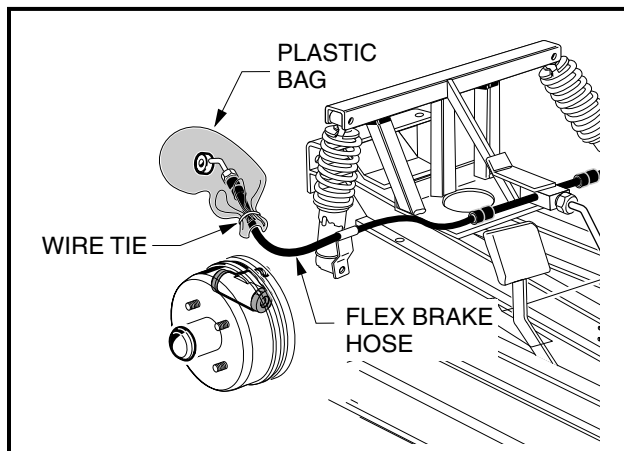

Figure 6a-17 Front Brake Hose With Plastic Bag
2. Remove the banjo bolt (16) and copper washers (17) from the brake cluster front hose assembly (**Figure 6a-3, Page 6a-4**).
3. To avoid spilling brake fluid, lift the hose above the brake cluster assembly and place a plastic bag over the hose fitting to keep dirt and debris from entering the hydraulic brake system (**Figure 6a-17, Page 6a-21**).
4. Using a Torx #T-40 driver, remove the four Torx-head bolts (18), washers (19) and lock nuts (20) that secure the brake cluster and back plate assembly to the front spindle plate (**Figure 6a-3, Page 6a-4**).
1. Use only new hardware for this step. Install the brake cluster back plate to the front spindle flange using four Torx-head bolts (18), washers (19) and lock nuts (20). Using a torque wrench with Torx #T-40 driver, tighten all four bolts to 76 in-lb (8.6 N·m) (**Figure 6a-3, Page 6a-4**).
2. Install a new banjo bolt (16) and new copper washers (17) to the front brake cluster wheel cylinder (7). Position the elbow of the brake hose toward the rear of the vehicle. Tighten the banjo bolt to 13 ft-lb (17.6 N·m) (**Figure 6a-3, Page 6a-4**).